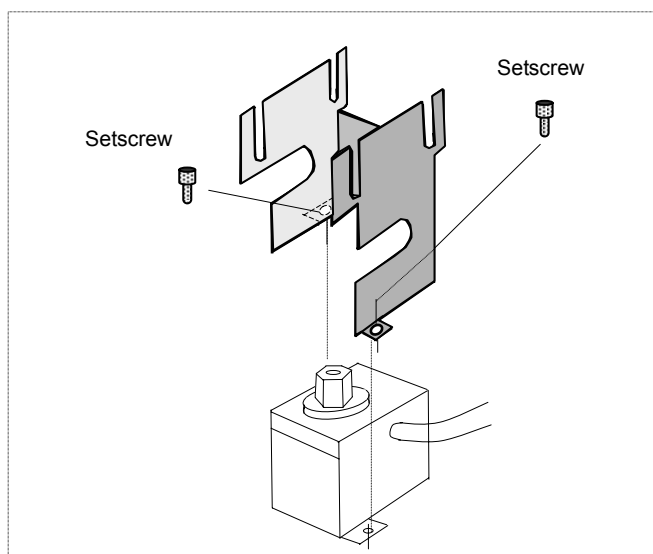

Fig. 3.6 Fixing mounting stand
STEP 4 Attaching Mounting Stand (Fig. 3.6)